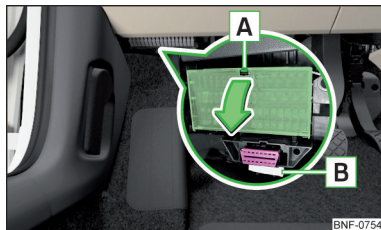

Fig. 135
The fuses are located underneath the steering wheel on the underside of the dash panel » Fig. 135.
- Press securing tab » Fig. 135.